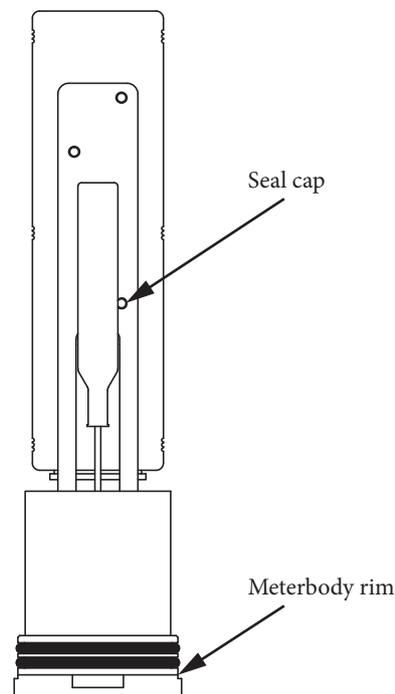

Fig. 9-8. Orientation of seal cap
- (1) Put the meterbody in the housing and push it until its rim comes in contact with the housing. At this time, make sure that the seal cap stands upright, and does not droop down. (☞ Fig. 9-8)